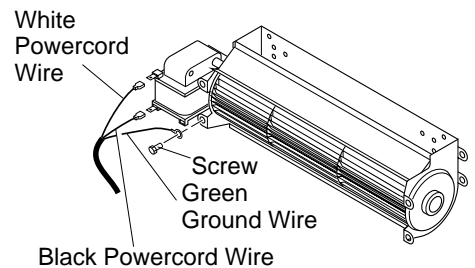

Figure 13 - Removing Wires from Blower
5. Disconnect power cord wires from blower motor (if connected) (see Figure 13).
6. Disconnect green ground wire from blower housing (if connected) by removing screw holding wire terminal (see Figure 13).
12. Attach the terminal end of the green power cord wire to the front tab of the blower housing using screw provided (see Figure 13).
- Disconnect power cord wires from blower motor (if connected) (see Figure 13, page 10).
- Disconnect green ground wire from blower housing (if connected) by removing screw holding wire terminal (see Figure 13, page 10).